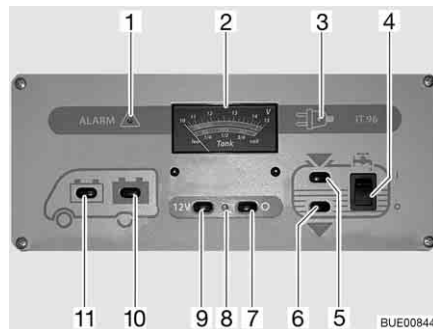

Fig. 151 Panel IT 96-2
The 12 V main switch (Fig. 151,7 and 9) switches the panel and the 12 V power supply to the living area on and off.
Switching on: ■ Press switch (Fig. 151,9) "12 V": The 12 V living area power supply is switched on. The indicator lamp (Fig. 151,8) lights up green.
Switching off: ■ Press switch (Fig. 151,7) "O": The 12 V living area power supply is switched off. The indicator lamp (Fig. 151,8) goes out.
With the V/tank gauge (Fig. 151,2), note the top scale. The gauge automatically lights up as soon as a switch is pressed.
- Press switch (Fig. 151,11) : The battery voltage of the starter battery is displayed.
- Press switch (Fig. 151,10) : The battery voltage of the living area battery is displayed.
The V/tank gauge is for the indication of the quantity of water or waste water. With the V/tank gauge (Fig. 151,2), use the bottom scale. The gauge automatically lights up as soon as a switch is pressed.
- Press switch (Fig. 151,5) "": The volume of water is displayed.
- Press switch (Fig. 151,6) "": The volume of waste water is displayed.
Switching on: ■ Press the upper part of the rocker switch (Fig. 151,4) "I": The water supply is ON.
Switching off: ■ Press the lower part of the rocker switch (Fig. 151,4) "O": The water supply is OFF.
The red "ALARM" warning light (Fig. 151,1) flashes as soon as the voltage of the living area battery falls below 11 V (measured under operation) and there is a risk of a total discharge.
The 12 V indicator lamp (Fig. 151,8) illuminates whenever the 12 V main switch (Fig. 151,9) is switched on.
The yellow 230 V indicator lamp (Fig. 151,3) illuminates whenever line voltage is available at the transformer/rectifier input.